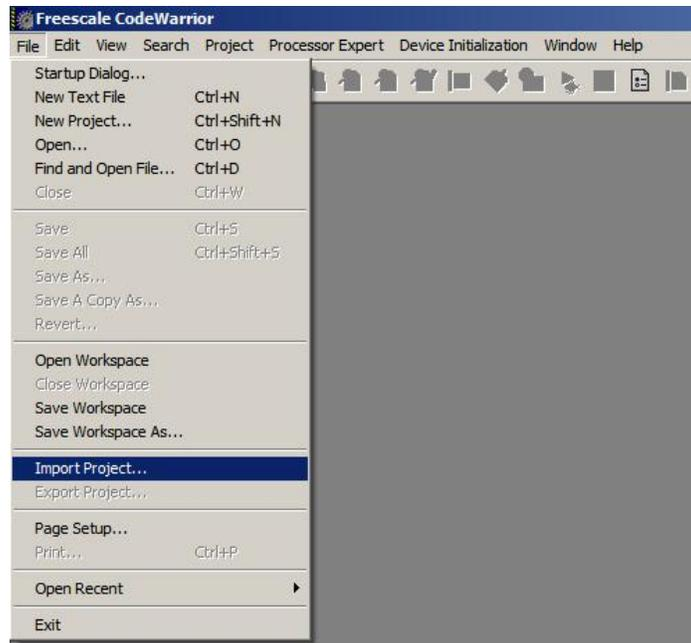

Figure 8. Importing an SMAC Codebase 1.0.4 Project
1. Open CodeWarrior and click on File -> Import Project as shown in Figure 8.